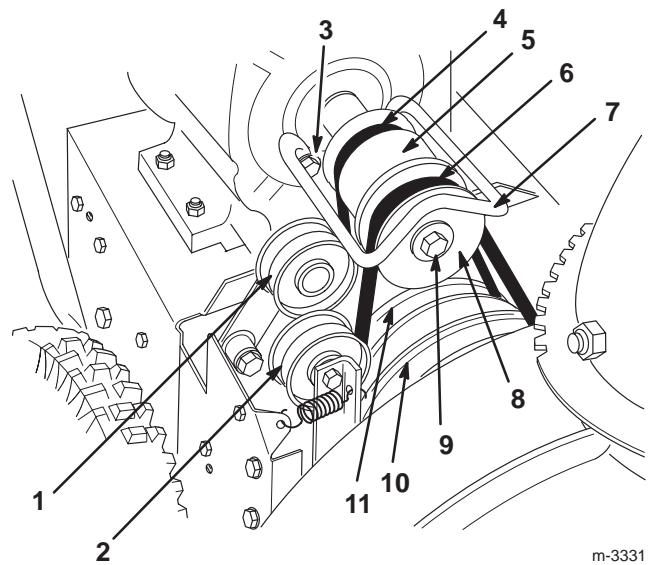

Figure 25
- Remove 2 bolts, 2 washers, and 2 lock washers that secure the belt guide (Fig. 25).
- Remove the engine crankshaft bolt, lock washer, and washer (Fig. 25).
- Separate and remove the engine pulley sheave (Fig. 25).
- Remove the engine pulley (Fig. 25).
- Remove the traction drive belt from the traction pulley and the engine crankshaft (Fig. 25).
- Pull the traction idler pulley outward and install a new traction drive belt (Fig. 25).
14. Pull the idler pulley outward and loop the auger/impeller drive belt in front of the engine pulley, ensuring that the belt is on the inside of the idler pulley (Fig. 25).
6. Remove the 2 bolts, 2 washers, and 2 lock washers that secure the belt guide (Fig. 25).
7. Remove the engine crankshaft bolt, lock washer, and washer (Fig. 25).
8. Separate and remove the engine pulley sheave (Fig. 25).
9. Remove the auger/impeller drive belt (Fig. 25).
10. Pull the idler pulley outward and install a new belt around the large auger/impeller pulley (Fig. 25).
11. Loop the belt in front of the engine pulley, and ensure that the belt is on the inside of the idler pulley (Fig. 25).